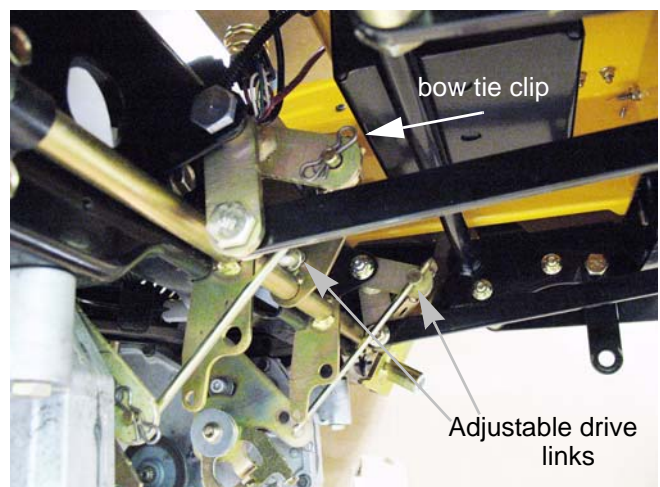

Figure 3.13
6. Disconnect the adjustable drive links from the pivot arms by removing the bow tie clips at the ferrule end of the link. See Figure 3.13.